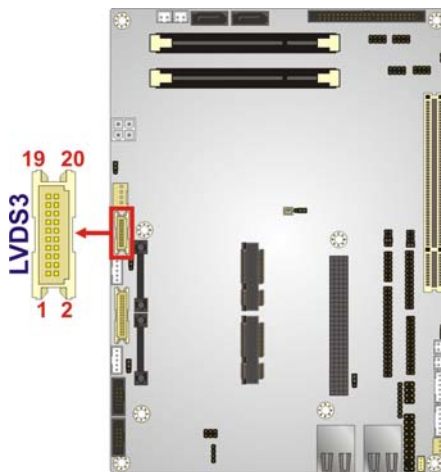

Figure 3-16: LVDS3 Connector Location
- CN Location:** See **Figure 3-16**